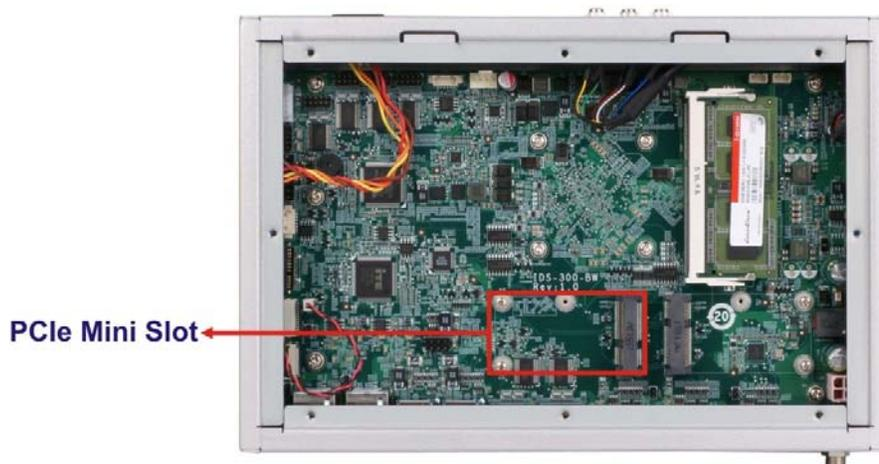

Figure 3-11: PCIe Mini Slot Location
- Step 3:** Locate the PCIe Mini slot (**Figure 3-11**).